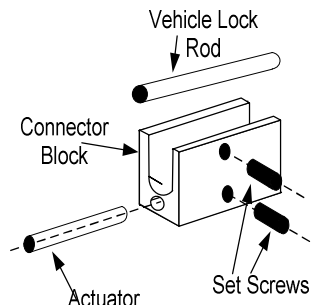
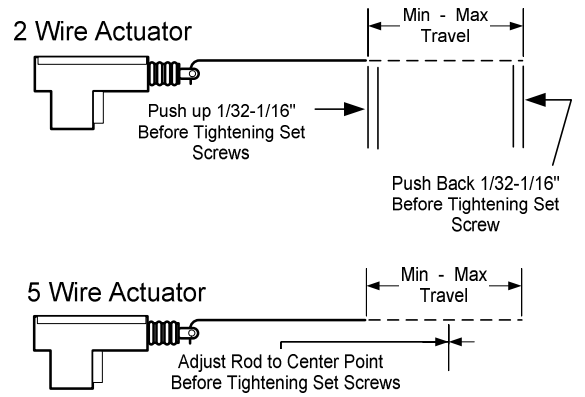

Fig. 3. Rod and Connector Block Assembly
Fig. 4 STROKE ADJUSTMENT
4. Insert the vehicle lock rod and actuator rod into the supplied connector block as shown in Fig. 3 & Fig. 4. After ensuring there is adequate allowance for the movement of the connector block assembly, tighten the set screws.
6. For each front door (5-wire) actuator, make sure you have adjusted the stroke of the actuator and vehicle lock rod to the middle point of its full stroke before tightening the set screws in the connecting block which connects the steel rod and vehicle's lock rod. See Fig 4.
7. For the rear (2-wire) door actuators, make sure you have adjusted the stroke of each actuator to max. or min. stroke position, and push it in or pull it out respectively about 1/16" before tightening the set screws in the connecting block as shown in Fig 4. Then push and pull the door lock lever/knob to assure that the mechanism is working well. If not then readjust.